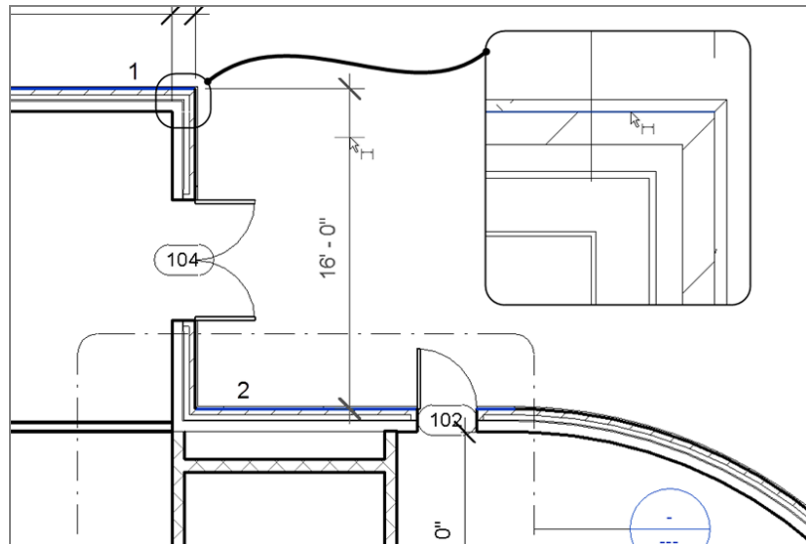

FIGURE 5.6: Placing the dimension by picking two objects
1. Zoom in on the northeast portion of the east wing, as shown in Figure 5.6.
- a. Pick the outside face of the north wall marked 1 in Figure 5.6.
- b. Pick the horizontal wall that ties into the radial wall, marked 2 in Figure 5.6.
- c. Place the dimension about 8' (2400mm) to the right of the vertical wall, as shown in Figure 5.6.